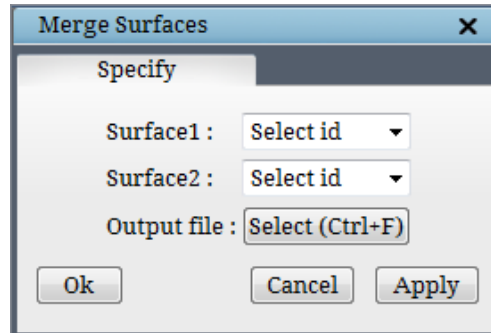

Figure 3.48: Merge Surfaces dialog box
**Merge** button is clicked, a dialog box opens as shown in figure 3.48. Select the two surface numbers that have to be merged and provide the output file name and click on **OK**. It will merge the two given surfaces and it will be replaced by a single merged surface.